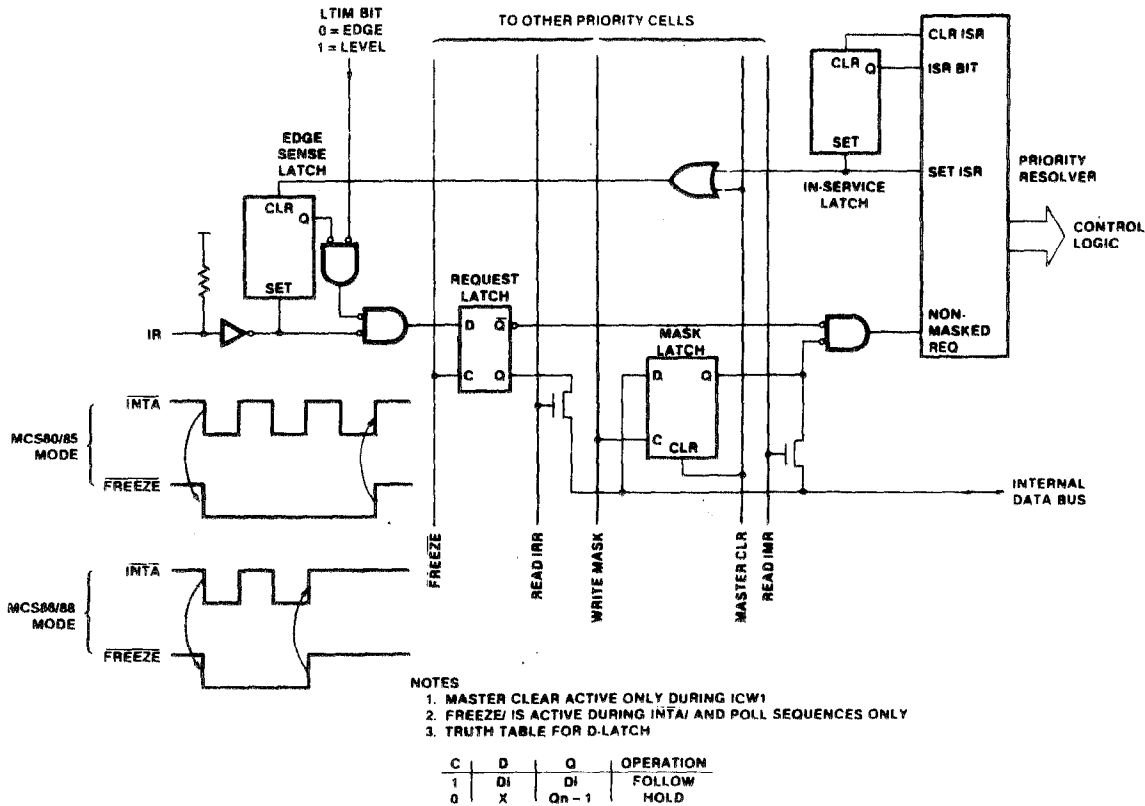

Figure 8. Priority Cell
Figure 8 shows conceptually how the Interrupt Request (IR) input handles an interrupt request and how the various interrupt registers interact. The figure represents one of eight "daisy-chained" priority cells, one for each IR input.